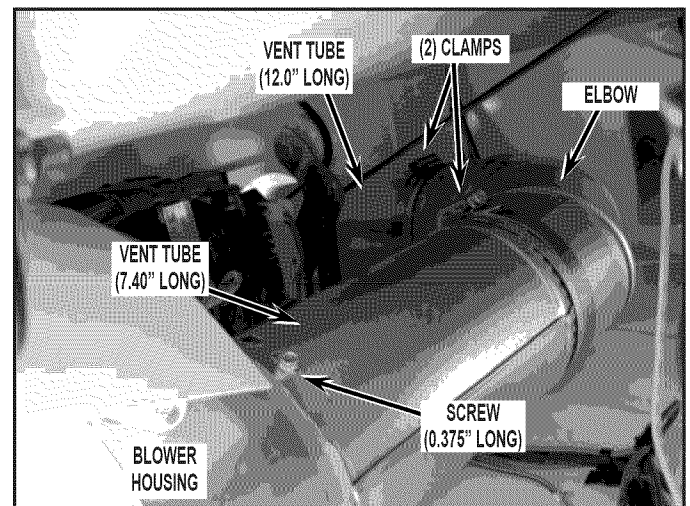
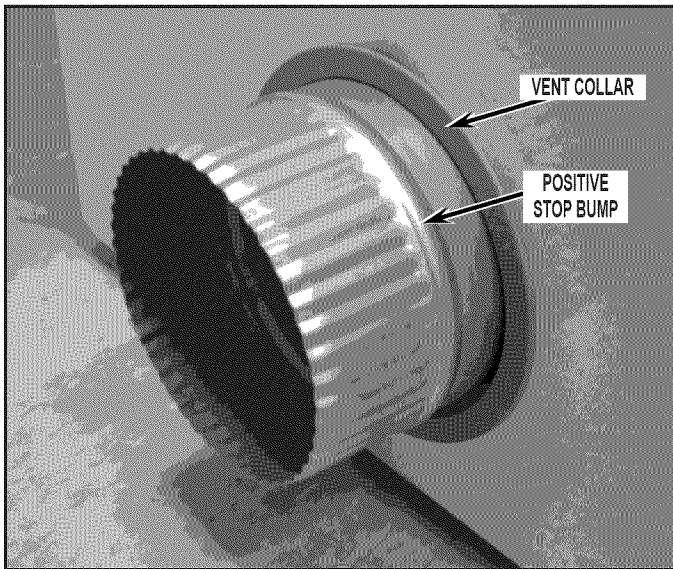

FIGURE 18
FIGURE 19
4. Attach the 305 mm (12.0") long vent tube and elbow from kit together using clamp included in kit. Tighten clamp to hold sub assembly together. See *Figure 18*.
5. Insert the sub-assembly from Step 3 through the dryer front and into the left side knockout hole, rib-end facing out. Slide a clamp onto the elbow and insert the 187 mm (7.40") vent tube from the kit into the elbow. See *Figure 18*.
- From the outside of the dryer, install the vent collar included with kit by sliding over exhaust vent tube and snap into place. See *Figure 19*.
- Assure the positioning of the exhaust vent assembly, making sure the positive stop bump on the 305 mm (12.0") long vent tube is on the outside of the dryer. See *Figure 19*. Securely tighten both clamps. See *Figure 18*.